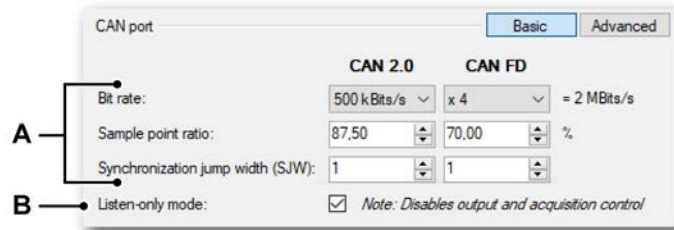

Figure 11.54: CAN port settings
- A Select the CAN port setup option to open the CAN port settings (see Figure 11.54).